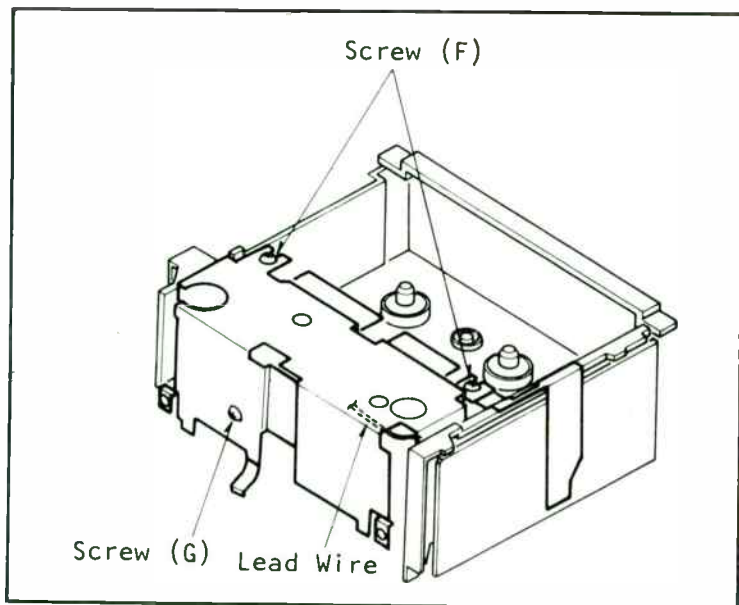

Fig. 9-12. Removal of the case shield (courtesy of General Electric).
Loosen 2 screws (F), remove a screw (G), pull the shield case toward the back of the deck and lift it up to remove (Fig. 9-12). When reinstalling panel, make sure the red lead wire is restored around the dumper correctly.